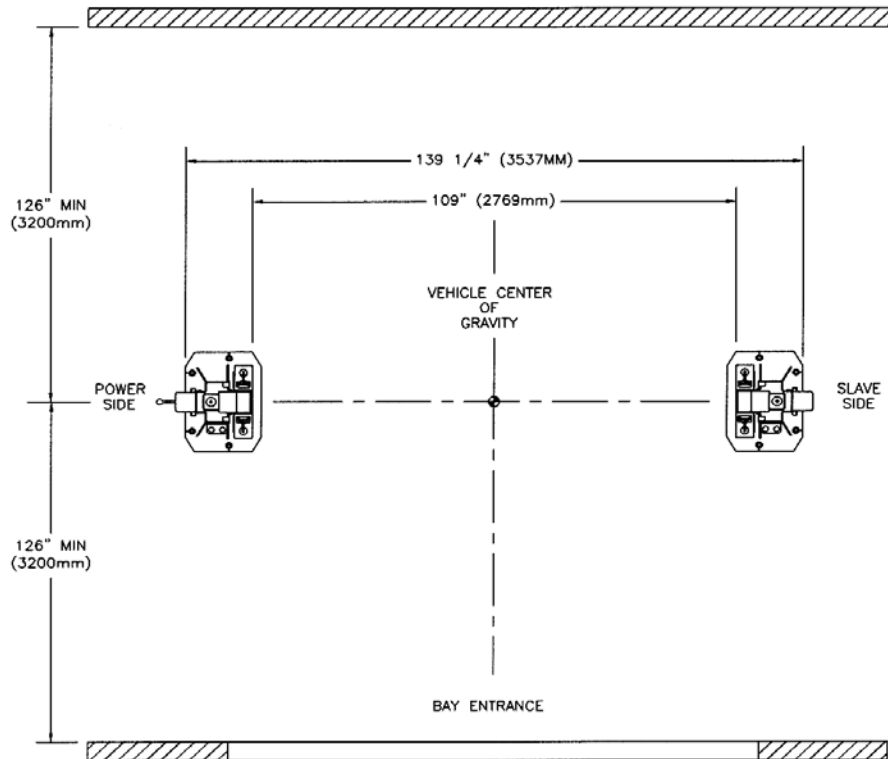

FIGURE 3 – BAY LAYOUT
7. Prepare the bay by selecting the location of the lift relative to the walls. Clear area of all packaging materials to avoid trip hazards. Draw a chalk line on the floor to represent the center line of the bay and a second chalk line crossing at 90° for locating the lift towers. Refer to **Figure 3**.
1. Locate the power side and slave side tower to the relative position as shown in **Figure 3**. Double check all dimensions.
2. Using a step ladder, install the crossmember. Raise and place the crossmember mounting hooks over the top of the tower. Install and **tighten** the crossmember using eight (8) 1/2"-13UNC x 1 1/4"LG. hex head bolts, flat washers, lockwashers and hex nuts.